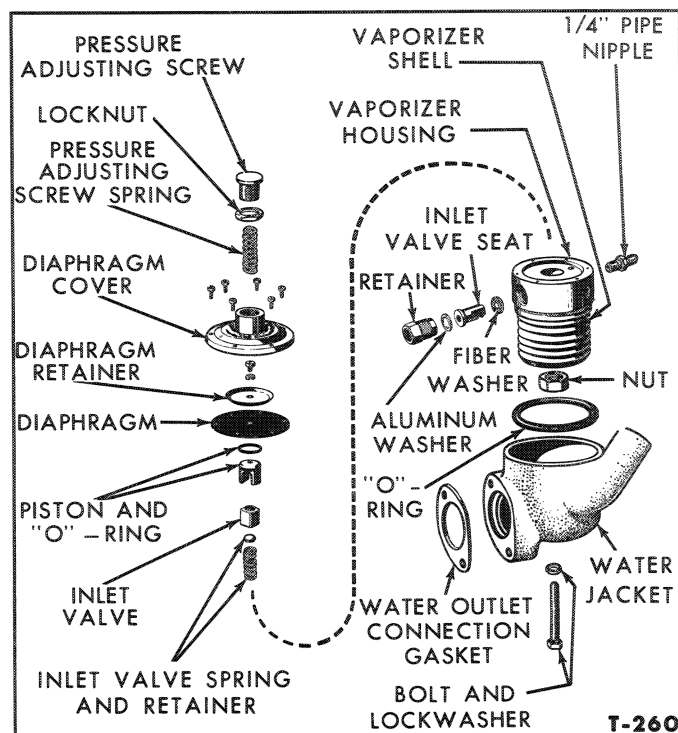

Figure 17—Vaporizer Disassembled—Early Model
1. Remove the inlet valve seat retainer and the aluminum washer from the inlet valve seat bore, Figure 17.
6. Place the spring retainer on the spring and insert the retainer end of the spring into the inlet valve. Assemble these units into the bore as shown in Figure 17.